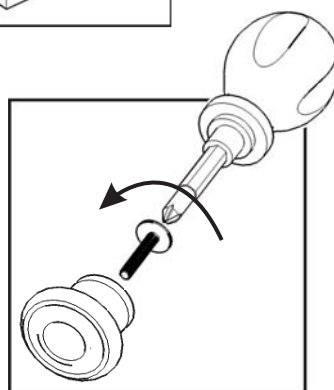

Figure 6
Assemble Knob to Door (J) with Machine Screws. (see Figure 6)